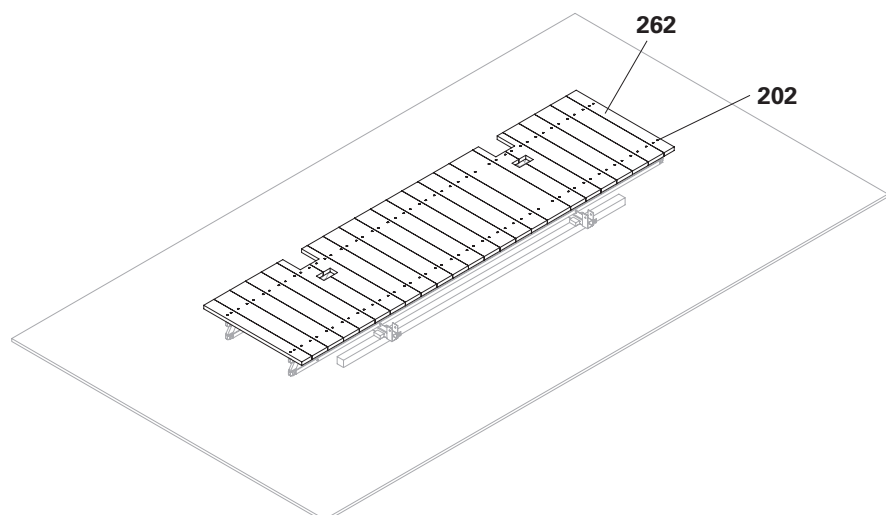

Fig. B6.07
6. Place the planking (**262**) on the Formwork Girder GT 24 (**21**), align and screw tight with 2x Torx 6 x 80 (**202**) per formwork girder. (Fig. B6.07).